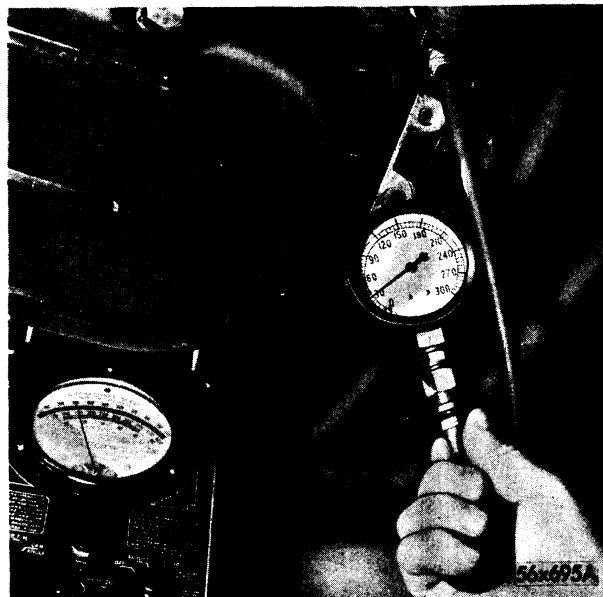

Fig. 24—Checking Governor Pressure
b. Governor Pressure (Refer to Fig. 24)